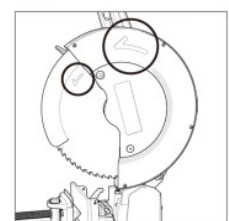

Fig. 6
- Install the blade on the inner blade flange and the mandrel, make sure the arrow direction on blade is the same as the arrow direction on the blade guard. (Fig.6)